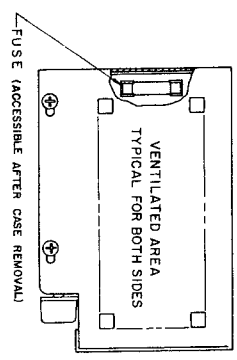

FIG. 1-2 MECHANICAL OUTLINE DRAWING.
- Refer to "Mechanical Outline Drawing," FIG. 1-2.